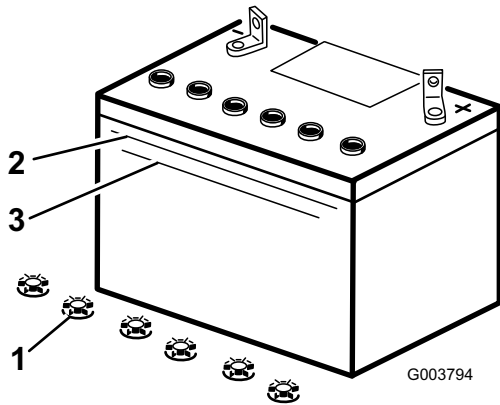

Figure 28
3. Look at the side of the battery. The electrolyte must be up to the Upper line (Figure 28). Do not allow the electrolyte to fall below the Lower line (Figure 28).
3. Remove the filler caps from the battery (Figure 28).
4. Slowly pour distilled water into each battery cell until the electrolyte level is up to the Upper line (Figure 28) on the battery case.
5. Wait five to ten minutes after filling the battery cells. Add distilled water, if necessary, until the electrolyte level is up to the Upper line (Figure 28) on the battery case.